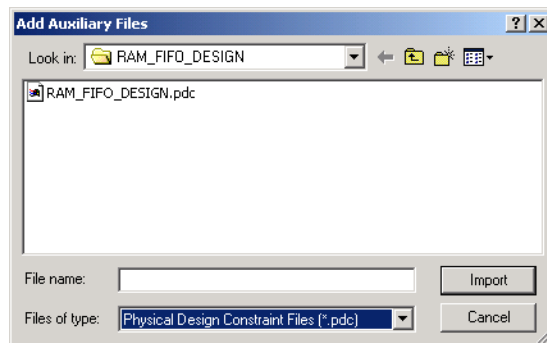

Figure 2-8. Add Auxiliary Files
2. **Click *the Add button*.** The Add Auxiliary Files dialog box appears, as shown in Figure 2-8.